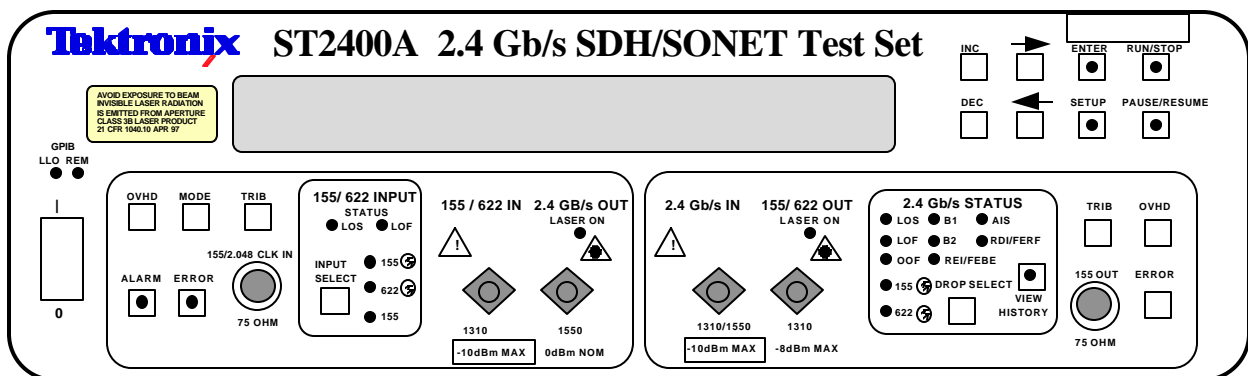

Figure B-1. ST2400A front panel - Transmitter (left-side) and Receiver (right-side)
7. Using the LEFT/RIGHT cursors, select ON and then press ENTER. *Note: On the transmitter side of the front panel, the red LED under LASER ON is now lit. Refer to Figure B-1 to identity the transmitter and receiver side of the front panel.*